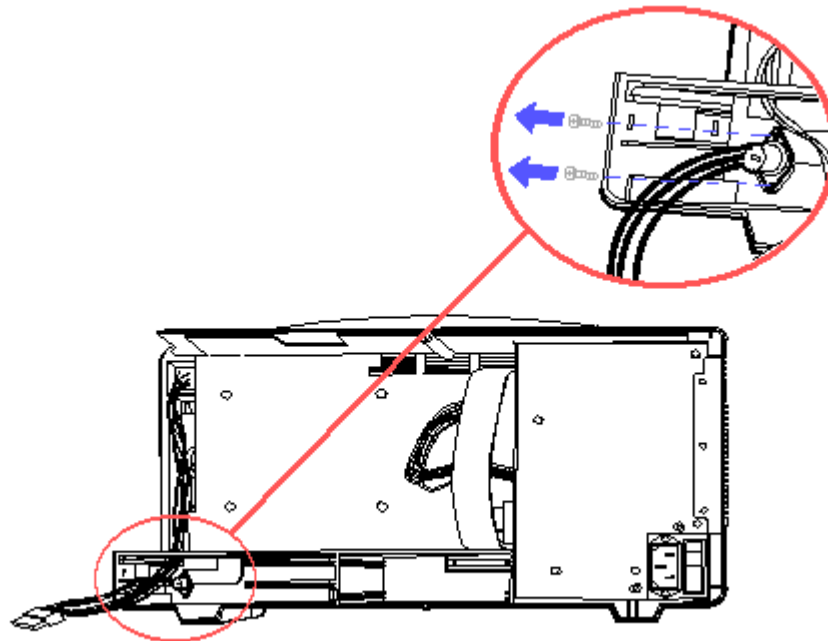

Figure 8-60. Removing the Keyboard Cable Connector Screws
9. Remove the two screws that secure the keyboard cable connector to the keyboard ground strap and computer chassis (Figure 8-60).